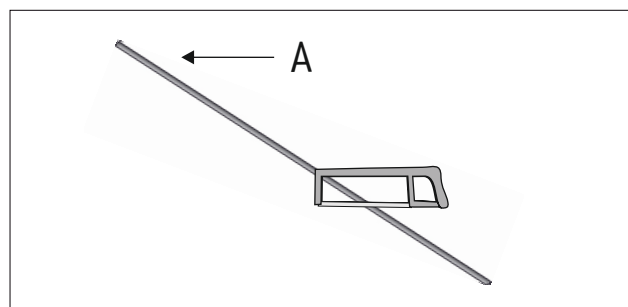

Figure 1
- 1 - You may cut the stem (A) to the desired length using a metal saw. Polish the rough edges. Figure 1.